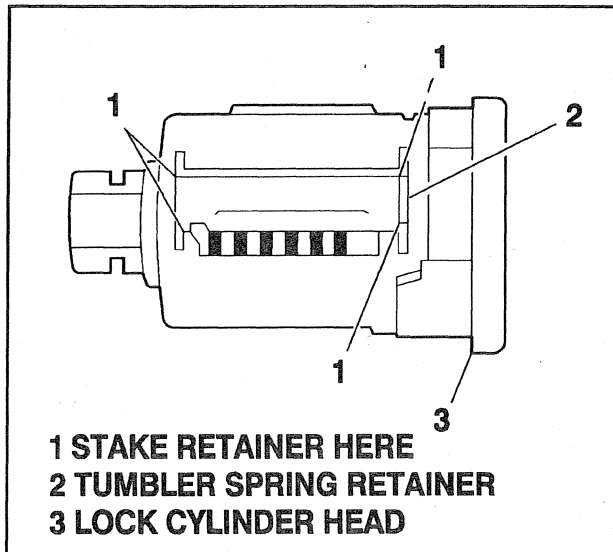

Figure 23—Locking Tumblers in Place
8. Stake the spring retainer securely in place at each end, using a suitable staking tool. Stake the cylinder metal over the retainer (figure 23).